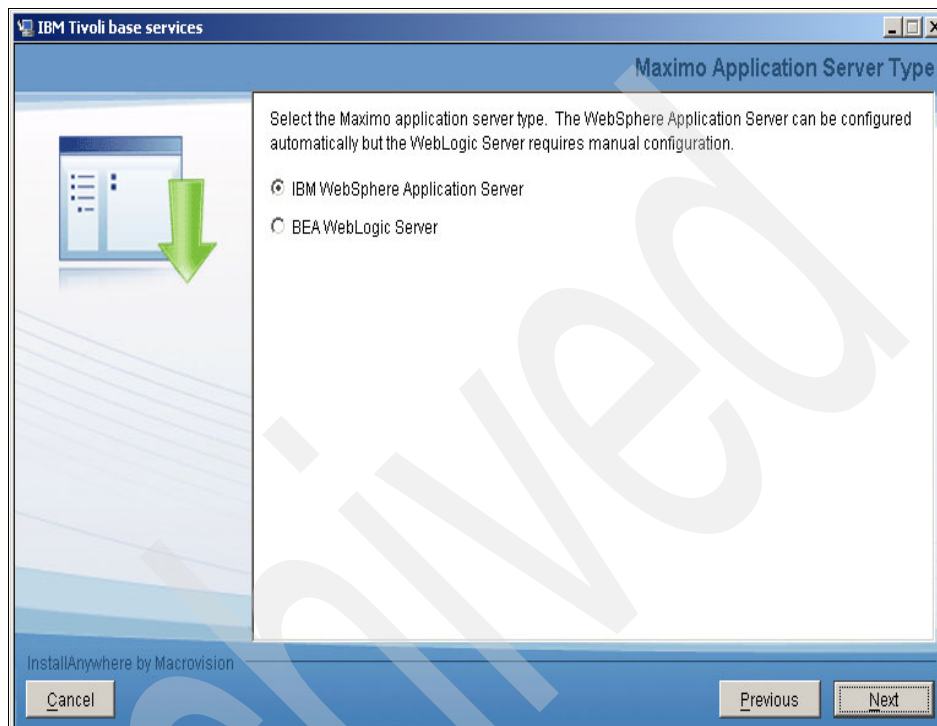

Figure 5-13 Maximo Application Server Type
8. From the Maximo Application Server Type panel, select the relevant application server you wish to deploy your Maximo application on, choose **IBM WebSphere Application Server**, and click **Next** (see Figure 5-13).